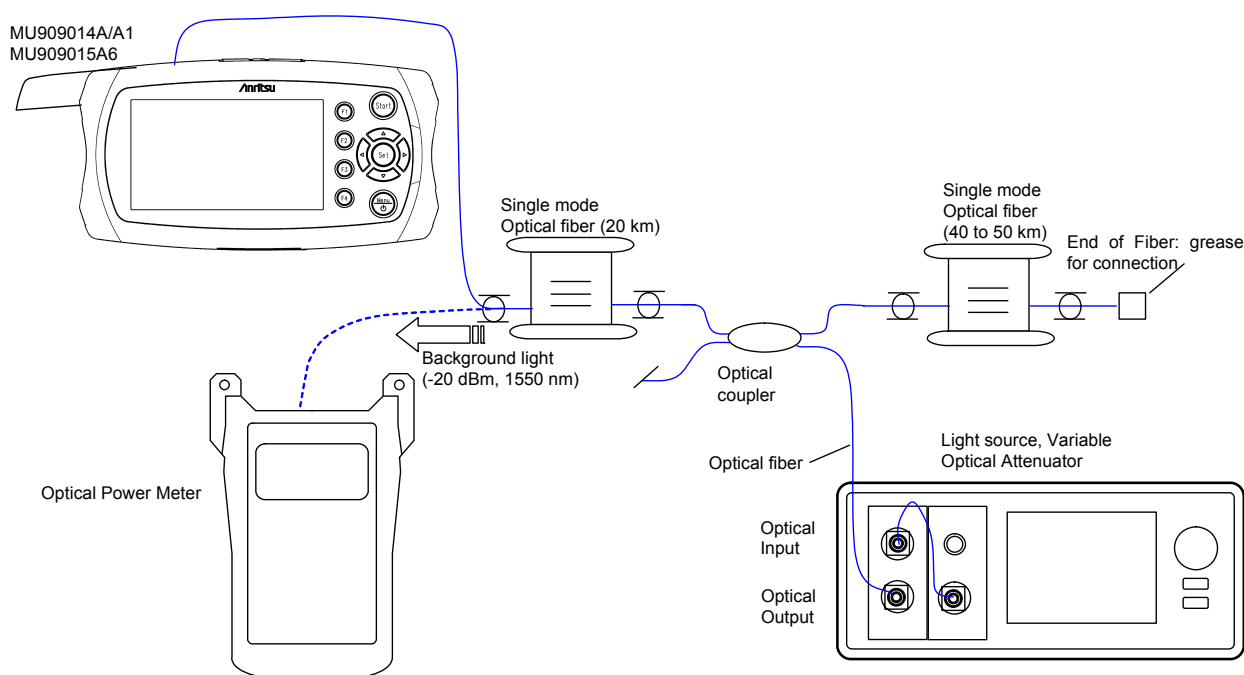

Figure 11.1.4-1 Dynamic Range Test – Connection Diagram (MU909014A/A1, MU909015A6)
1. Connect the light source, variable optical attenuator, optical coupler, single-mode fiber, and optical power meter as shown in Figure 11.1.4-1.